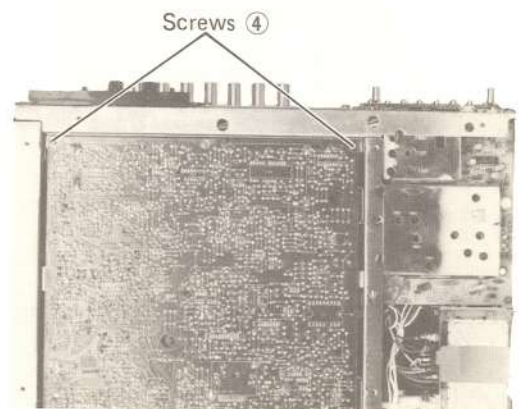

Fig. 3-11
1. Remove the two screws ④ on the printed circuit board as shown in Fig. 3-11.